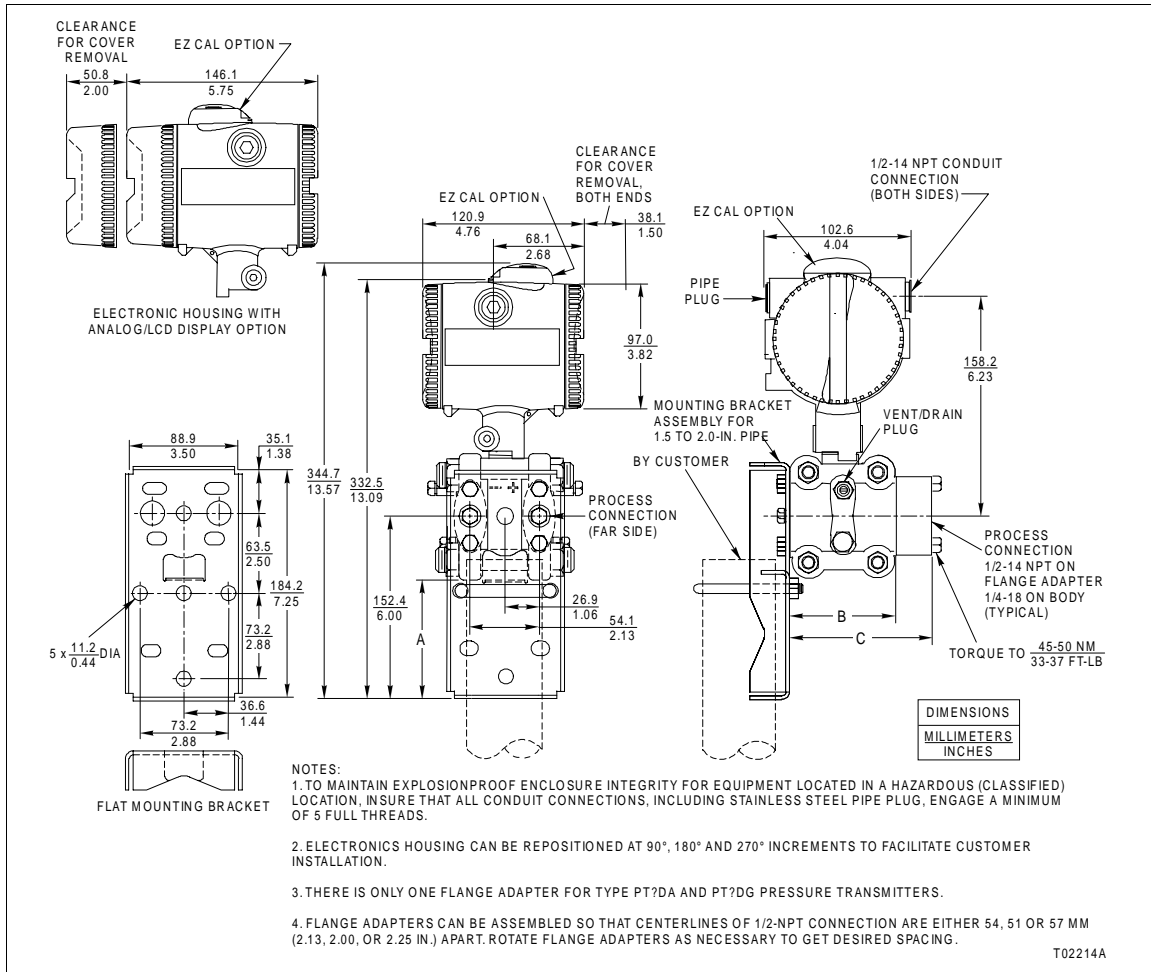

Figure 3-1. External and Mounting Dimensions
When mounting the transmitter, leave ample clearance to open the cover of the electronics housing (Fig. 3-1). Wire the transmitter with a twisted, shielded pair cable for best results. Avoid sources of RFI (radio frequency interference). Refer to Table 3-1 for the A, B, and C dimensions shown in Figure 3-1.
Table 3-1. Dimensions for Figure 3-1
Refer to Figure 3-1 and Table 3-1 for the external and mounting dimensions of the transmitter.
2. Position the EZ CAL option on the top of the transmitter as shown in Figure 3-1 and install the mounting screw.